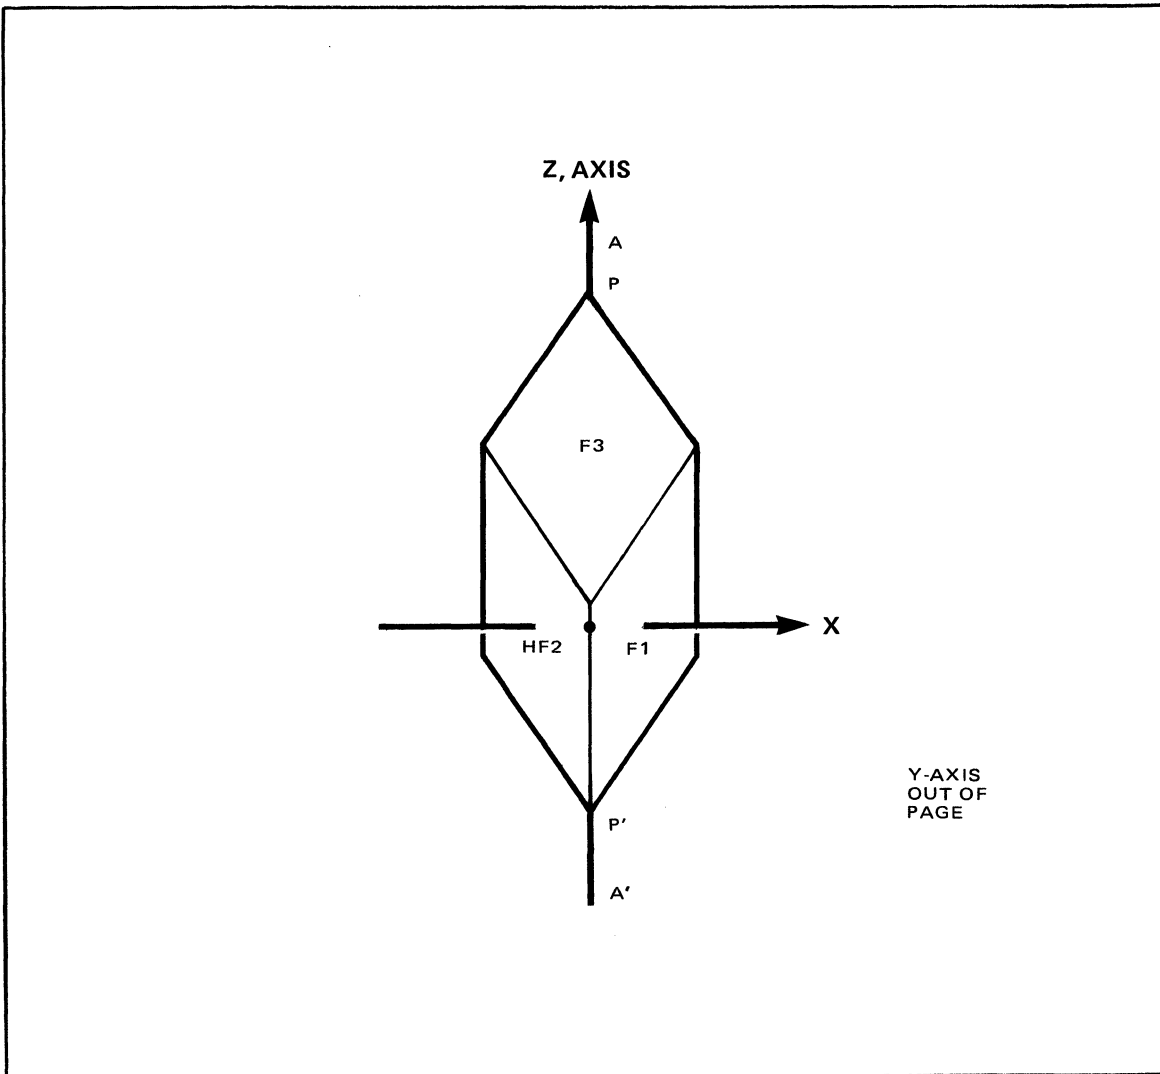

**Figure A-4. Axis**
- The coordinates of the point P shown in Figure A-4 are a, b, c where:
- The distance between the point P and the center of solid, C. See Figure A-4.
In Figure A-4 the line AA' is called the axis of the solid and it will pass through points P, P' and C.